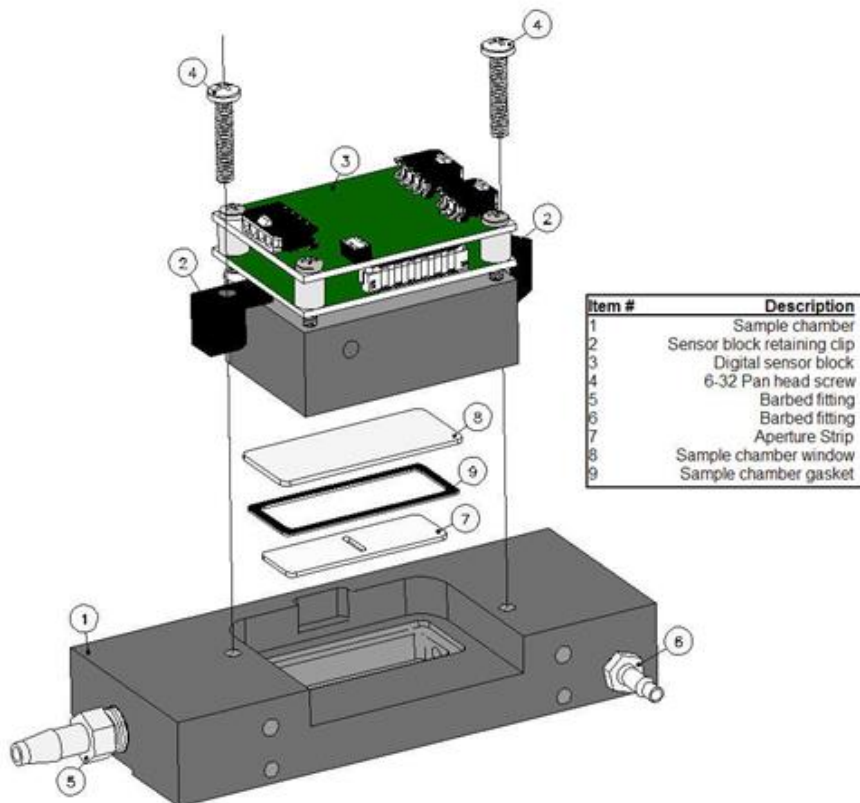

Figure: 7-1: Sample Chamber Assembly
- c) Turn off gas to the analyzer. Pull back the Compression Head and inspect the Sample Chamber (Figure 7-1) for paper dust and dirt. If necessary, remove the Sample chamber assembly and clean it.